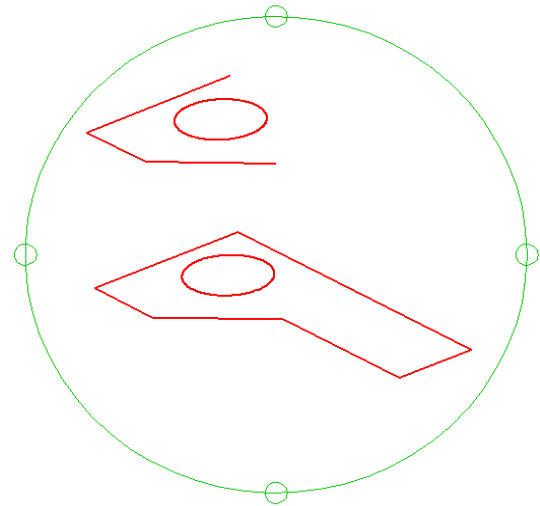

Figure Step 9
Step 9 Using the 3DORBIT command, rotate the model slightly. See Figure Step 9.